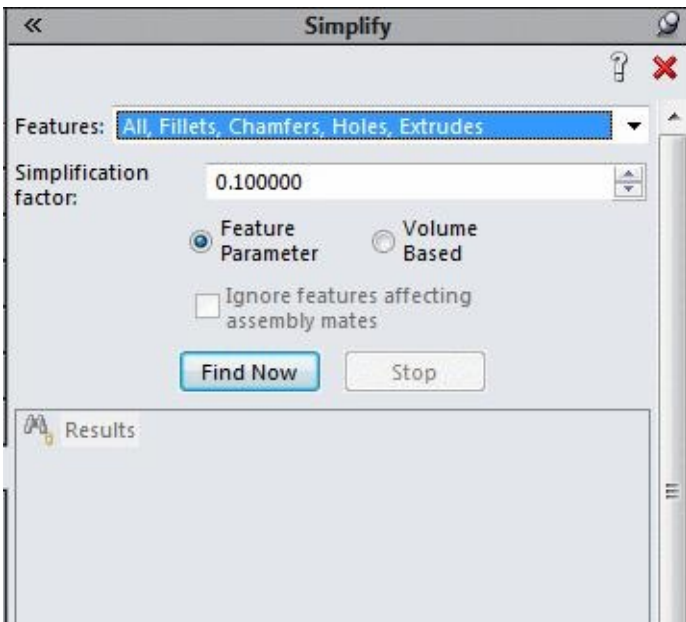

Figure-3. Simplify taskpane
- Click on the **Simplify Model for Meshing** button from the shortcut menu. The **Simplify** task pane will be displayed; refer to Figure-3.